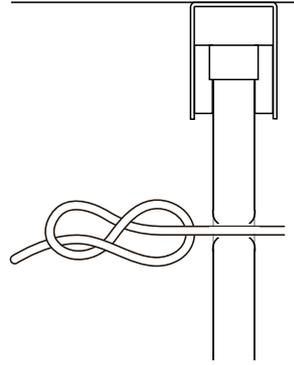

**Figure 1**
### Installation and Assembly (Figure 1)
9. Spread the side arms slightly apart and insert the front bar into the corners as shown in Figure 1.